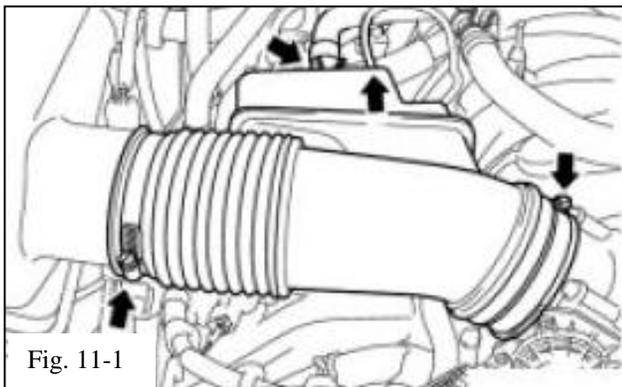

Fig. 11-1
- (1) Disconnect the vacuum and ventilation hoses and loosen the 2 clamps (Fig. 11-1).
- (2) Discard the hose (bellows) and clamps.